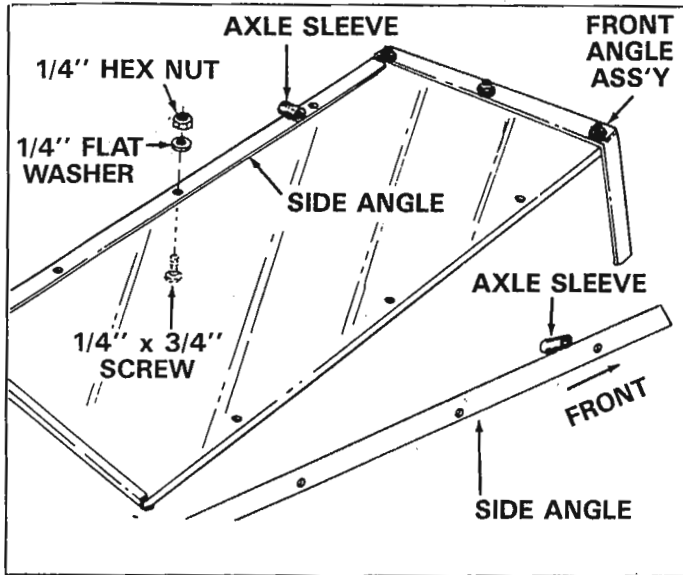

FIGURE 3
3. Turn front angle assembly and bottom panel upside down as shown in figure 3.
4. Lay the two side angles on bottom panel so that the axle sleeves are towards the front angle assembly. See figure 3.
5. Secure the two side angle assemblies to the bottom panel with six 1/4" x 3/4" truss head screws, flatwashers and hex nuts. Only make finger tight, until all six screws are in place, then tighten securely. See figure 3.